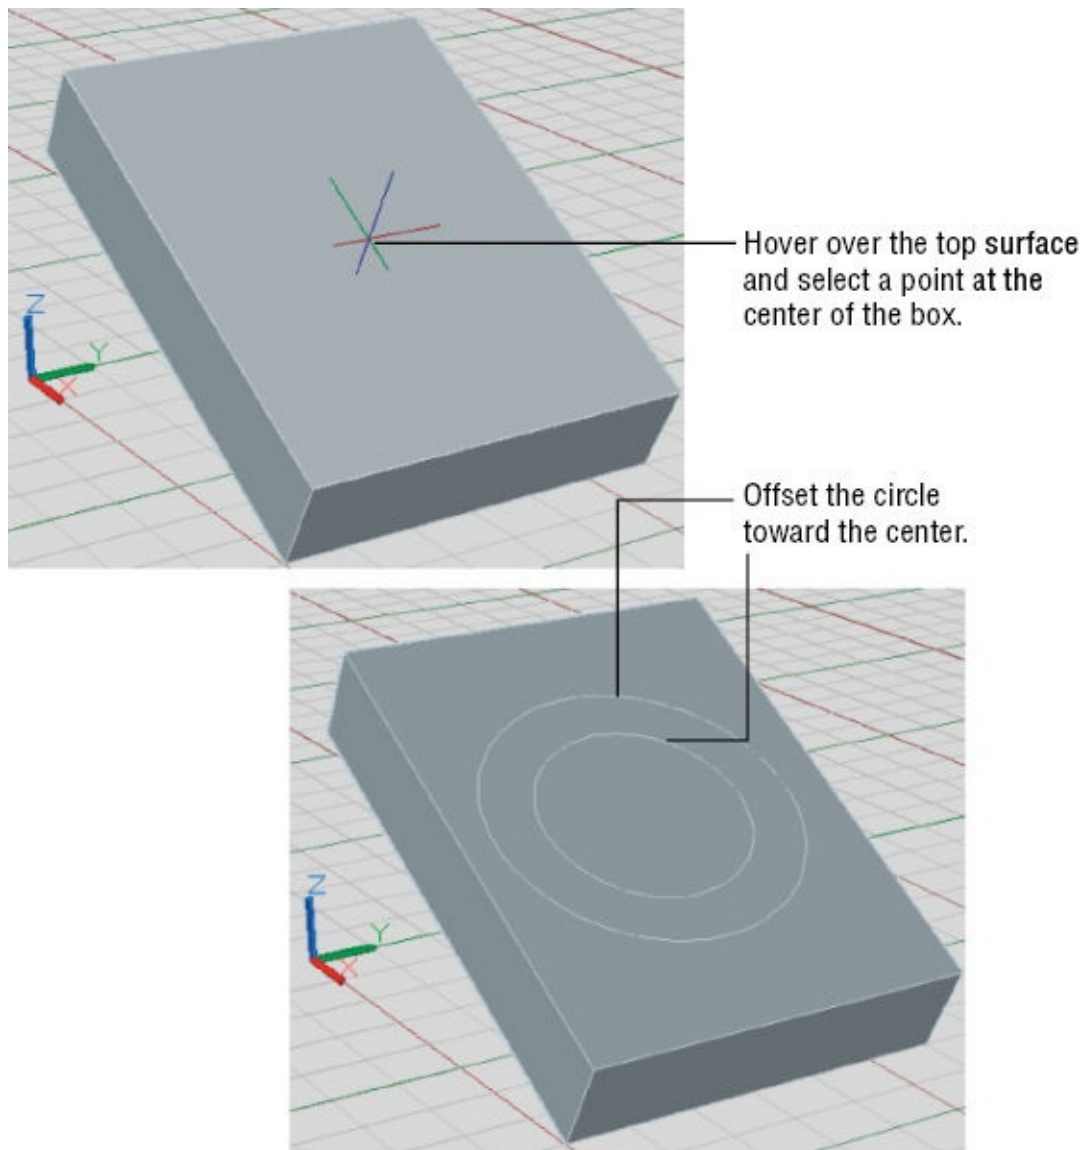

FIGURE 20.12 Drawing circles on the surface of a 3D solid
2. Place the cursor on the top surface of the box, as indicated in the top image of Figure 20.12, and hold it there for a moment. The surface is highlighted, and the cursor aligns with the angle of the top surface.
4. Adjust the circle so that it's roughly the same 6-unit radius as the one shown on the lower image in Figure 20.12, and then click to set the radius. You can also enter **6** ↵.
5. Select Offset from the Home tab's Modify panel, and offset the circle 2 units inward, as shown in the lower image of Figure 20.12. You can use the Center